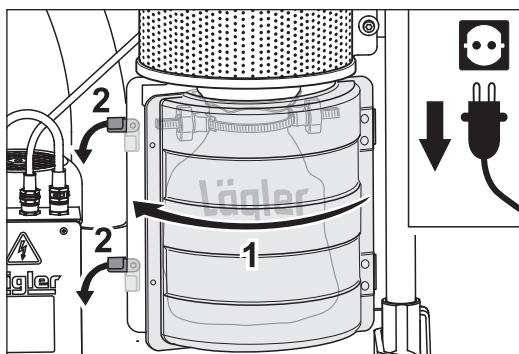

Fig. 50 Close the dust bag box (1) and lock it by turning the two fasteners back to their downward position (2).
- 10 Close the dust bag box (fig. 50, 1) and lock it by turning the two fasteners back to their downward position (fig. 50, 2).